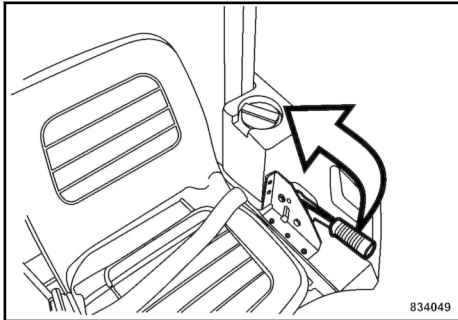

Fig. 126
1. Pull up the parking brake lever. ↪ Fig. 126.